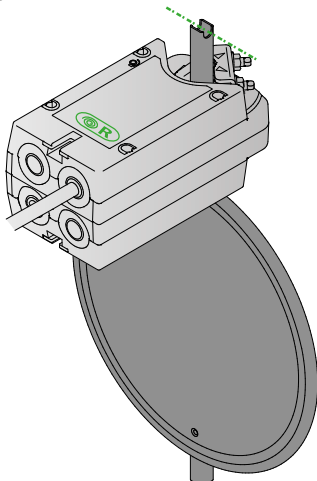

Figure 10. Standard installation (NC), damper closed with jumper to the right.
NOTE! Positioning of damper blade and locking strip, see figures 10 and 11.
1. Standard installation of damper motor (NC @R) Damper blade installed in closed position, see Figure 10.